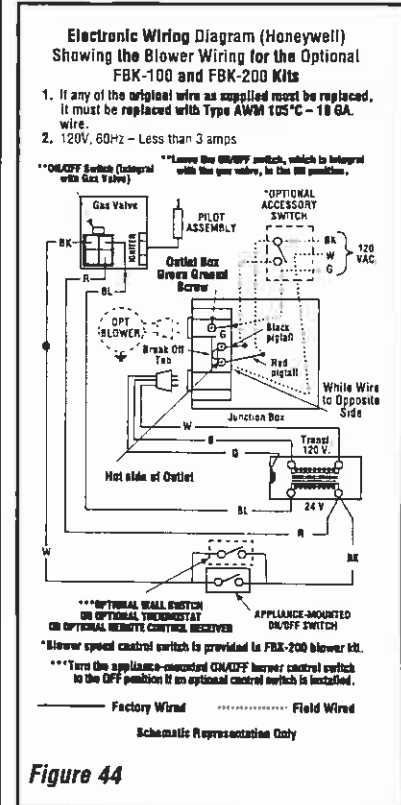

Figure 44
B. Electronic Wiring (See either figures 44 or 45) –
4. Connect the black power supply wire to the lower outlet's red pigtail lead and the white power supply wire to the common terminal of the outlet as shown in Figures 44 or 45.
8. If an optional control is to be used, wire it in the low voltage circuit as shown in Figures 44 or 45.
Note: The gas valve-mounted ON/OFF switch is shown in figure 44. It is integral with the gas valve and should be set to the ON position.
IMPORTANT: Ground supply lead must be connected to the wire attached to the green ground screw located on the outlet box. See Figure 44 and 45. Failure to do so will result in a potential safety hazard. The appliance must be electrically grounded in accordance with local codes or, in the absence of local codes, the National Electrical Code, ANSI/NFPA 70- (latest edition). (In Canada, the current CSA C22-1 Canadian Electrical Code.)
(See Figure 44 on page 21) -